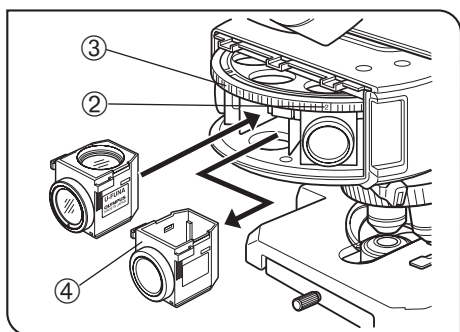

Fig. 13
6. Attach the cover ① in the original position.
7. Insert the indicator sheet ⑤ for the fluorescence mirror unit mounted in each turret position ② (Fig. 13) under the film of the corresponding mirror unit inscription pocket ⑥.